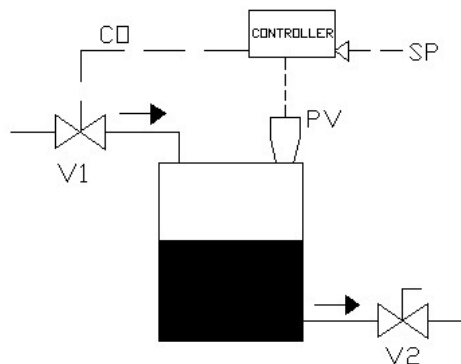

Figure 3.1: Tank Level Control
With the proportional control mode, the controller output changes in proportion to the error. K_p , which is entered into the controller by the operator, is the constant proportional term. Using the proportional control mode only, the system will never reach the set point. Thus, an offset, which is a sustained error that cannot be eliminated, exists. For example, consider controlling the water level in the tank in **Figure 3.1** with a proportional controller only.
Figure 3.1 shows a controller with a Set Point (SP) that you can adjust to the desired tank level. The Controller Output (CO) controls the valve, V1, to let fluid into the tank. Finally, the controller has some indication of the tank level or Process Variable (PV) through the level sensor. If you open V2, the tank level decreases and the error (set point - tank level measurement) increases. The proportional controller increases the controller output proportional to this error. Thus, V1 will be open wider and more water flows into the tank. V1 will continue to open wider until the inflow matches the outflow. At this point, the tank level and the error remain constant. Since the error remains constant the proportional controller will keep its output constant and V1 will hold its position. The system now remains at balance with the tank level below its set point.